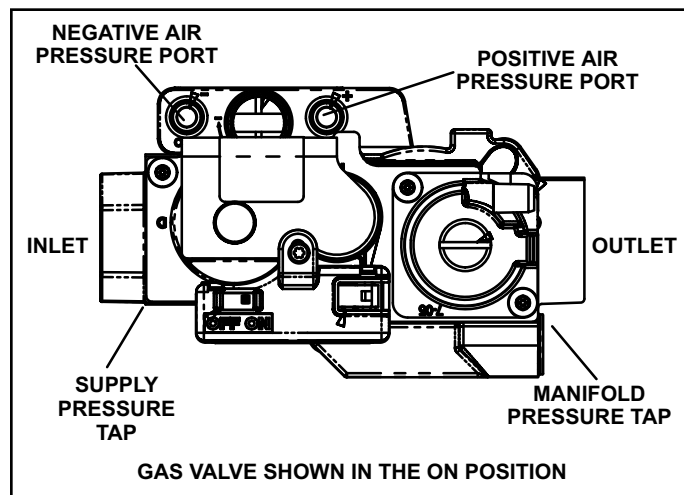

Figure 46. Gas Valve
6. Move gas valve switch to OFF. See Figure 46.
8. Move gas valve switch to ON. See Figure 46.
When testing supply gas pressure, connect test gauge to supply pressure tap on the gas valve. See Figure 46. Check gas line pressure with unit firing at maximum rate. Low pressure may result in erratic operation or underfire. High pressure can result in permanent damage to gas valve or overfire. See Table 25 for operating pressure at unit gas connection (line).